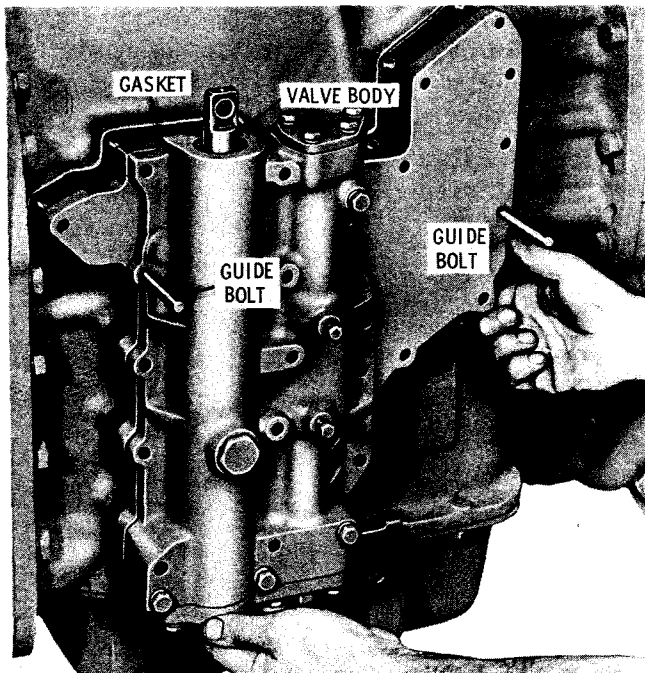

Fig. 7-97. Installing 6-speed control valve body assembly
(6) On 5660 and 5860 models, install two 3/8-16 headless guide bolts. Install the gasket and valve body assembly (fig. 7-97). If the valve body assembly is electrically actuated, refer to the supplement at the back of the manual.